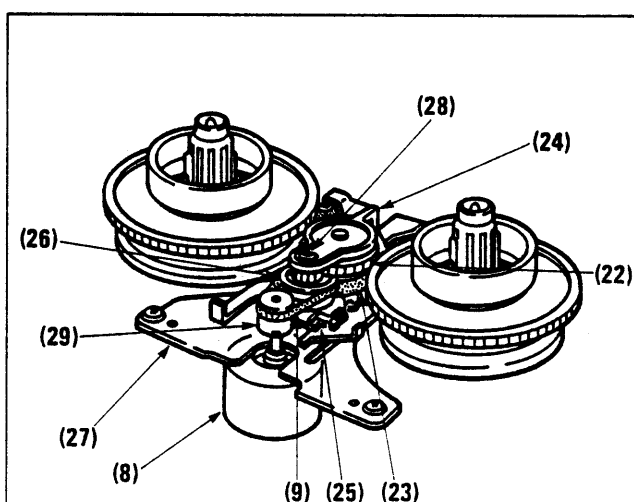

Fig. 3-3-9
Also, the play lever (24) and the F FWD/REW lever (25) are, together with the center gear (26), mounted onto a shaft (28) fixed to the base plate (27). The center gear (26) is connected to the reel motor pulley (29) by the reel motor belt (9), and transfers the rotation force of the reel motor (8) to the play gear (22) and the F FWD/REW roller (23). (See Fig. 3-3-9.)